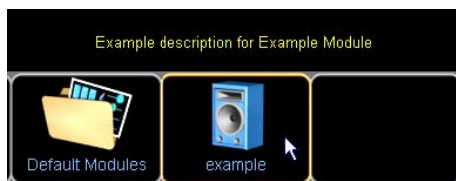

Figure 19-12: Module Help Text
5. Select the Module file example from the scroll bar. The text you entered appears above the Module as shown in Figure 19-12.